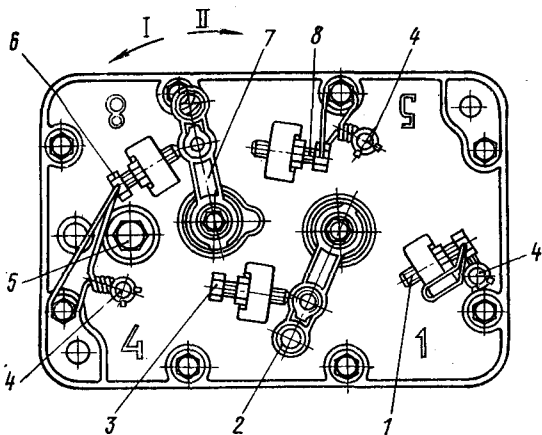
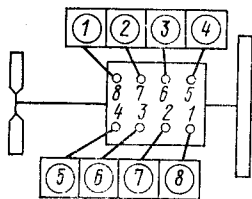

Fig. 42. Governor Top Cover:
Fig. 48. Diagram of Connection of HPFP Sections with Engine Injectors
On the governor cover are cast numerals 1, 4, 5 and 8 (Fig. 42) marking the location of the corresponding sections. Numbers of injectors and connection of pumping sections with engine injectors are shown in Fig. 48.
The governor top cover (see Fig. 42) mounts: governor control lever 2, stop lever 7, adjusting bolts and filler plug 5.
The HPFP should be checked and adjusted in assembly with the prechecked injectors connected to pump sections (Fig. 48).
3. If control lever 2 (see Fig. 42) thrusts against maximum speed limiting bolt 1, check the pump camshaft revolutions which must correspond to initiation of throw-out of the rack. The governor must start throwing out the rack at camshaft speed of $1335\text{--}1355\text{ min}^{-1}$. Otherwise, readjust using bolt 1.
4. If governor control lever 2 (see Fig. 42) thrusts against bolt 1, and when the camshaft revolves at $(1300 \pm 10)\text{ min}^{-1}$, check and, if need be, readjust the mean cyclic feed; it must be about $72.0\text{--}75.5\text{ mm}^3/\text{cycle}$.
5. Check and readjust, if need be, the fuel feed shut-off through injectors when governor control lever 2 (see Fig. 42) rests against bolt 3. Check that the fuel feed is shut off at about $330\text{--}400\text{ min}^{-1}$. When readjusting, use bolt 3.